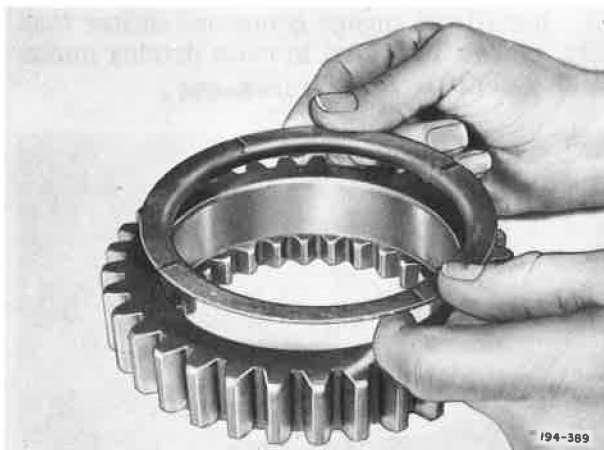

Figure 5-178. Installing Gear Thrust Washer On Hi-Range Gear
23. Apply a light coat of heavy grease to gear side of compound countershaft Hi-range gear thrust washer, Lo-range gear thrust washer for TRDXL107, 1071. Then place thrust washer on front face of gear hub. See Figure 5-178. The grease will hold these parts together until they are completely assembled.